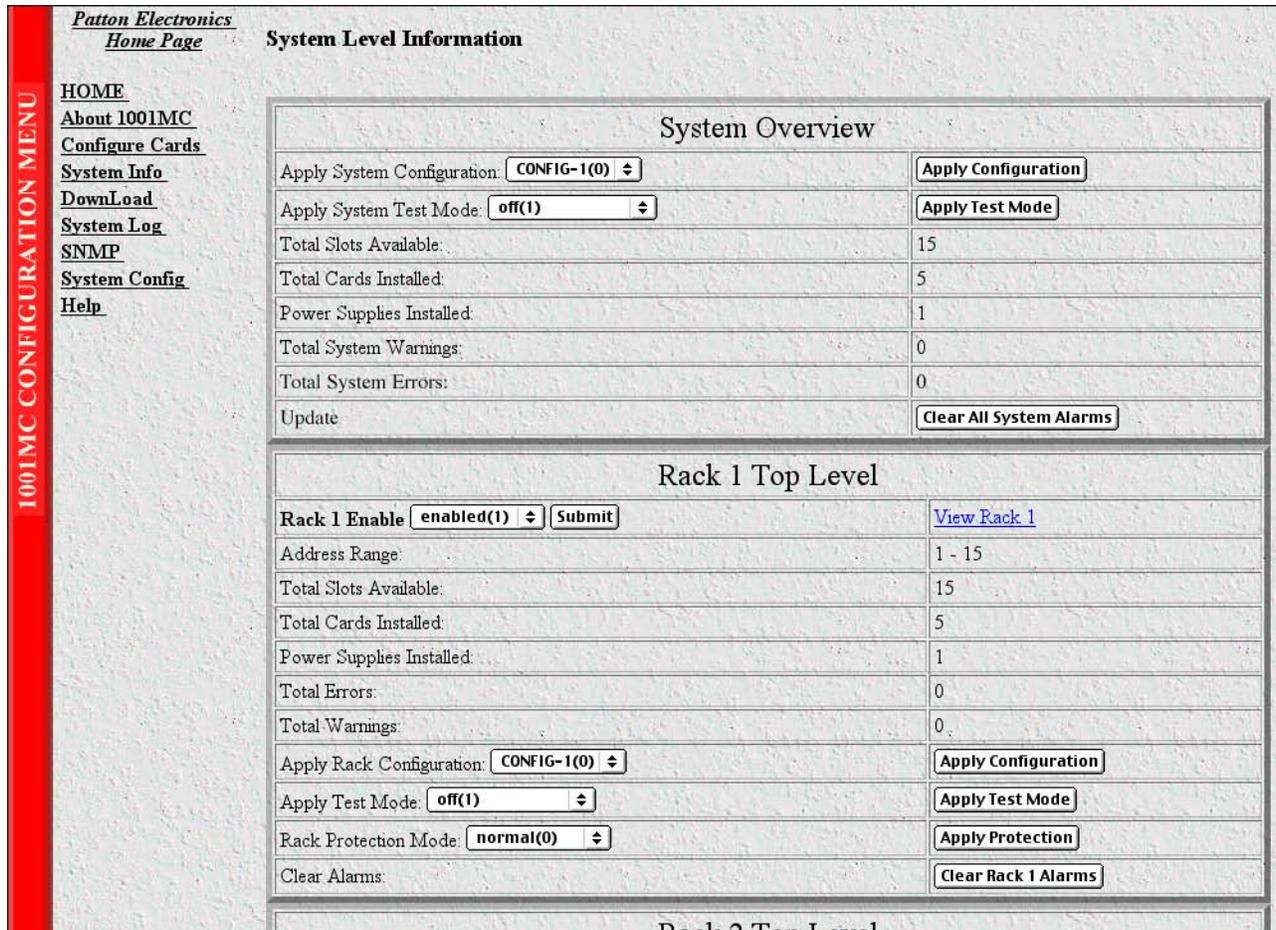
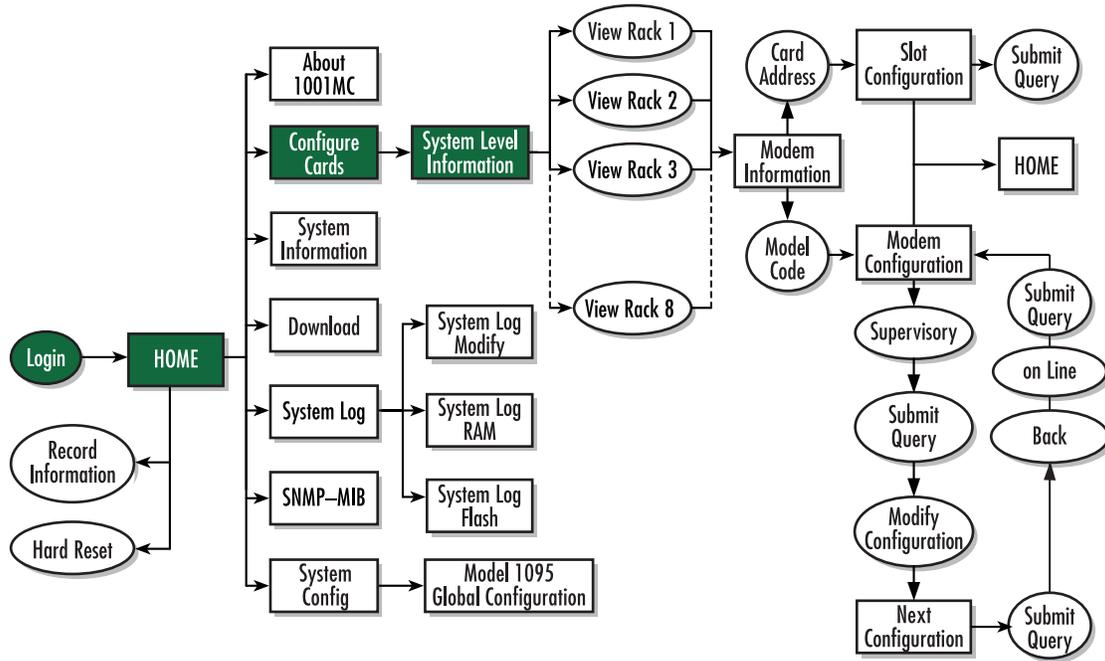

Figure 54. System Level Information page
Figure 55. Web page navigation to System Level Information page
1. Starting from the HOME page, click on the *Configure Cards* link to display the System Level Information page see figure 54. Figure 55 on page 115 shows the web page navigation required to get to this area of the system.
2. Use the *Rack Protection Mode* pop-up menu (see figure 54) to select *protected(1)*.